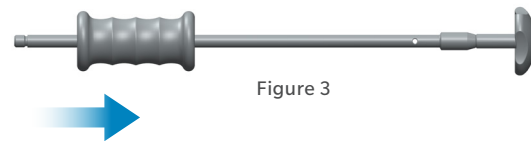

Figure 3
2. Pull the striking weight (2) on the cannulated ram guide (4) as shown on Figure 3.